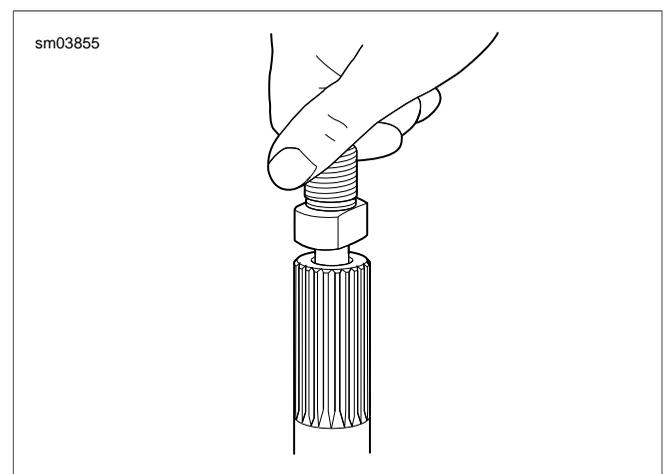

Figure 3-135. Thread Pilot Adapter into Sprocket Shaft
- a. See Figure 3-135. Thread pilot adapter into sprocket shaft.